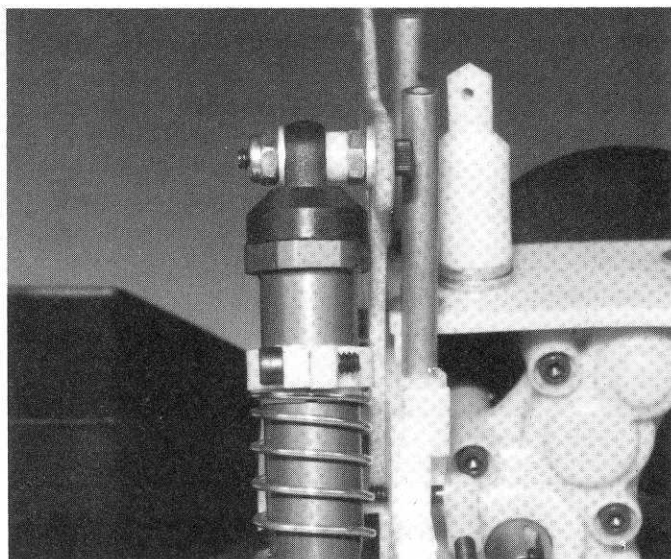

Fig. 115
□ **Fig. 115** Install a locking nut next. Do not overtighten the nut, it is only necessary for the nut to take up the end play.